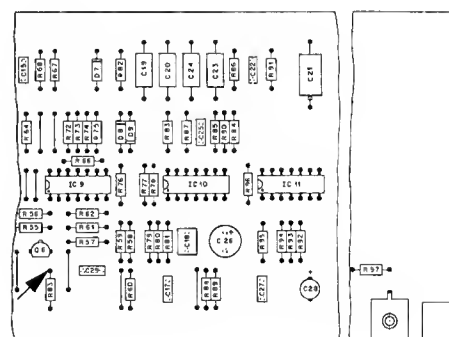

Fig. 4.15
- Connect DC voltmeter (range 1.5 VDC) to R 63 on SERVO 2 PCB (see arrow in Fig. 4.15).